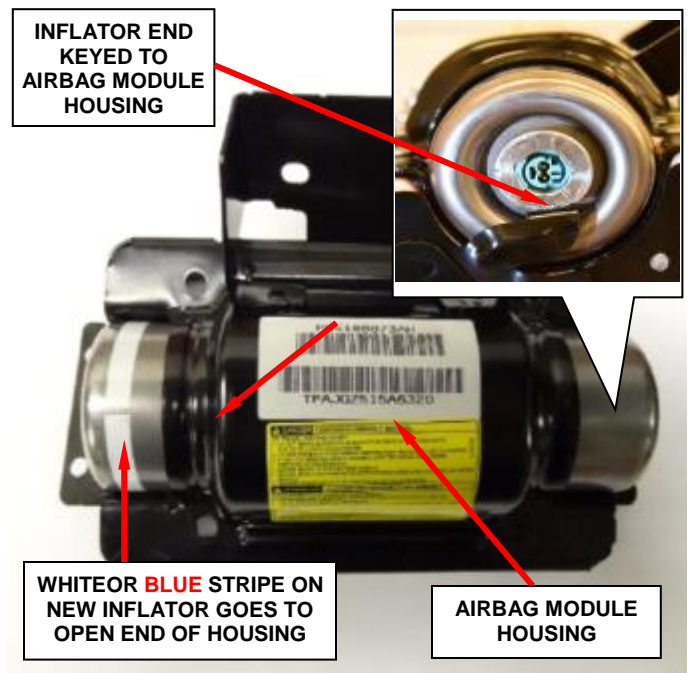

Figure 87 – Install New Inflator to Housing
NOTE: The inflator's key **MUST** line up with the housing's key (Figure 87).
- l. Slide the **NEW** inflator into the passenger airbag module housing. The keyed end is inserted first; therefore, the white stripe on the **NEW** inflator will be located at the open end (Figure 87).